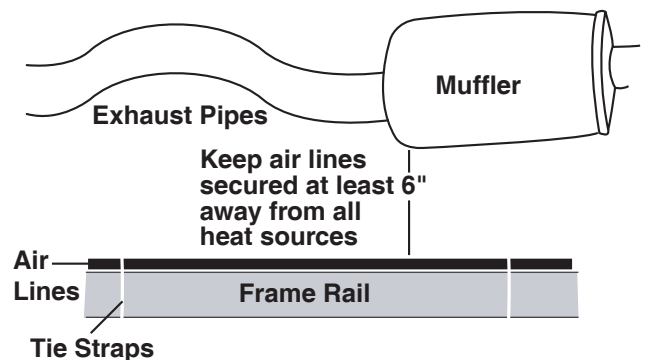

Figure 17
5. Route the air line along the frame to the air fitting on the air spring. Keep at least 6" of clearance between the air line and heat sources, such as the exhaust pipes, muffler, or catalytic converter (Figure 17). Avoid sharp bends and edges. Use the plastic tie straps to secure the air line to fixed, non-moving points along the chassis. Be sure that the tie straps are tight, but do not pinch the air line. Leave at least 2" of slack to allow for any movement that might pull on the air line.